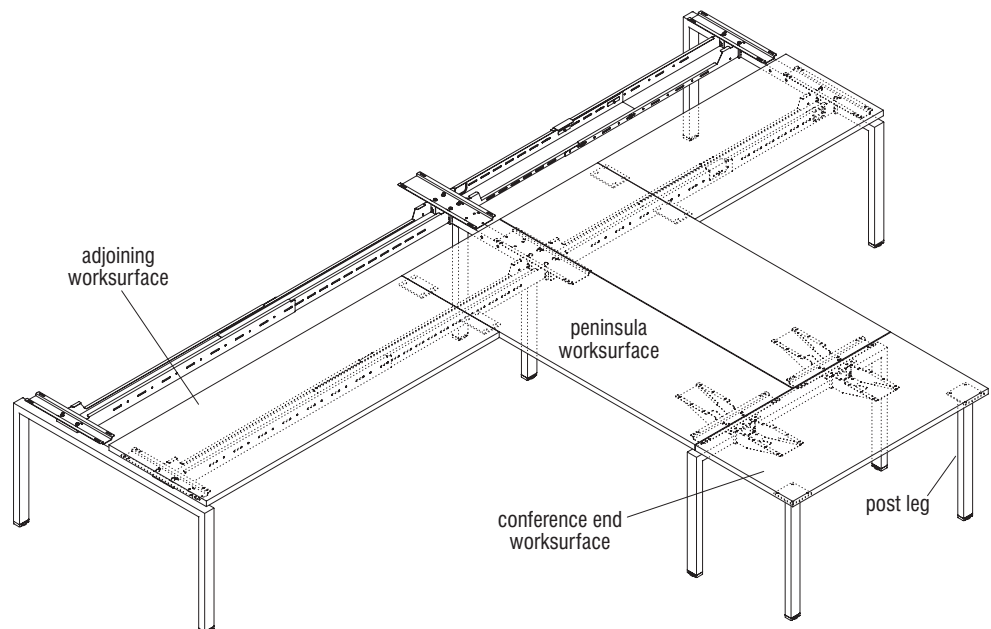

Figure 4 - Conference End with Adjoining Dual-Sided Peninsulas
Note: A "perpendicular conference end support frame" consists of four "cantilever worksurface support brackets" installed to the top of a dual-sided conference end leg, but the cantilevers are held in place in a different manner at each side. The section to follow (Detail B & Figure 4) illustrate the proper assembly.
2. Next, on the peninsula worksurfaces side of the support frame, install two fixed worksurface brackets to the beam-mount bracket using M8 x 20mm hex-drive screws to lock in the cantilever (Detail B & Figure 4).
3. On the "conference end" side of the support frame, install two "cantilever lock brackets" using M8 x 20mm hex-drive screws to secure cantilever to beam mount bracket (Detail B & Figure 4).